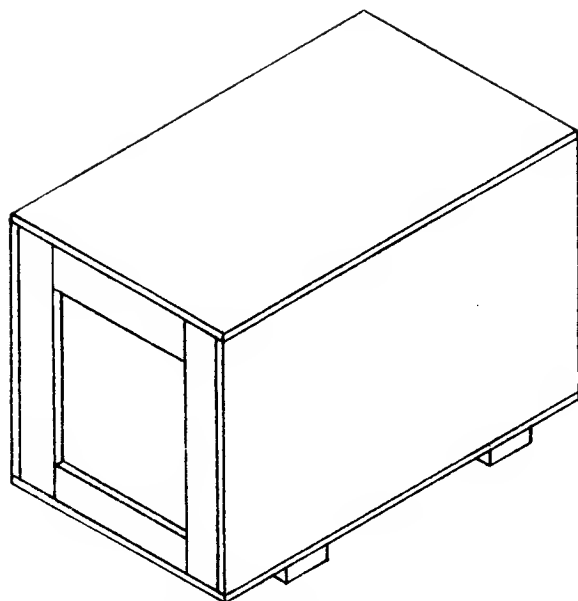

Figure A-17. Shipping Container.
28	Assemble exterior shipping container (see Figure A-17) with 8D nails (FF-N-105) (5315-010-6507) and apply skids with 10D nails (FF-N-105) (5315-010-6509).
29	Pack nine (9) packaged machine guns into a cleated plywood box, inside dimensions 47 $\frac{3}{4}$ ' x 30 $\frac{1}{4}$ ' x 32 $\frac{1}{4}$ ' (see Figure A-17).